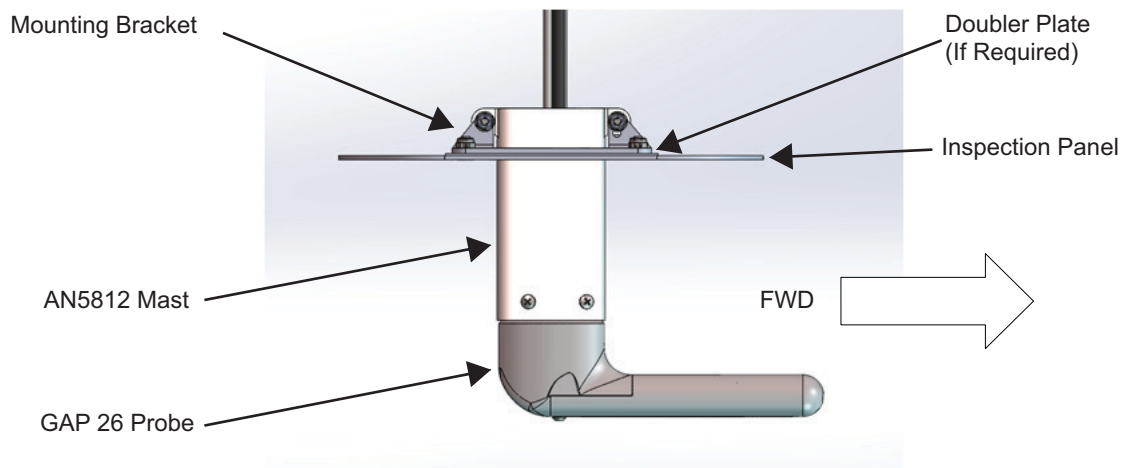

Figure 5-2. GAP 26 Probe and Mount (Side View)
- A sheet metal template for the cutout and mounting holes has been included. Using this template will ensure required clearance to make the five degree adjustment after installation if needed. To make the five degree pitch down adjustment, remove the leading edge mounting bolt where the AN5812 Mast connects to the mounting bracket (see Figure 5-2). Loosen the aft side mounting bolt and rotate the mast downward until the leading edge mounting hole aligns with the offset hole provided on the mounting bracket. Install the leading edge mounting bolt with the mast in this position and tighten the aft side bolt.